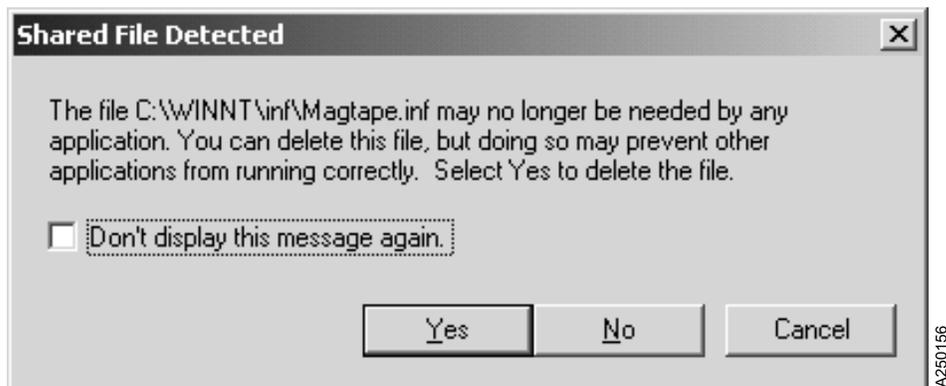

Figure 45. InstallShield Wizard Menu
10. Follow the InstallShield Wizard instructions to uninstall your IBM Ultrium device drivers. In the middle of the uninstall process, the InstallShield wizard may ask you a question; see Figure 45.